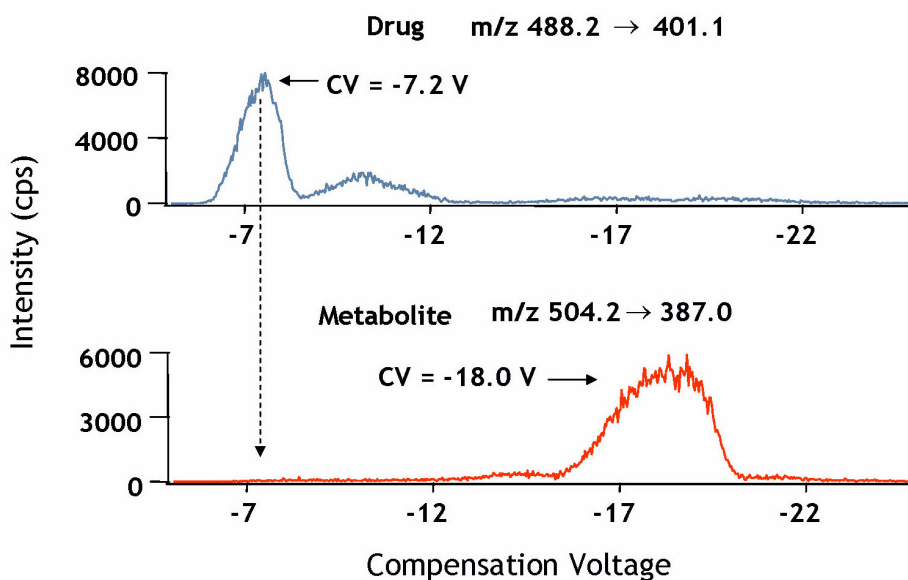

Figure 5. FAIMS-MS/MS selection of drug and metabolite
Figure 5 shows plots of the ion signal intensity versus CV for a drug and its metabolite. The drug can be selected because the metabolite does not contribute signal at the monitored CV of the drug.
The compensation voltage (CV) is the dc potential offset that is applied to the inner electrode to transmit selected subsets of ions through the electrodes. The CV is typically negative for positive ions and positive for negative ions. The CV is tuned for a specific ion, as was shown in Figure 5.